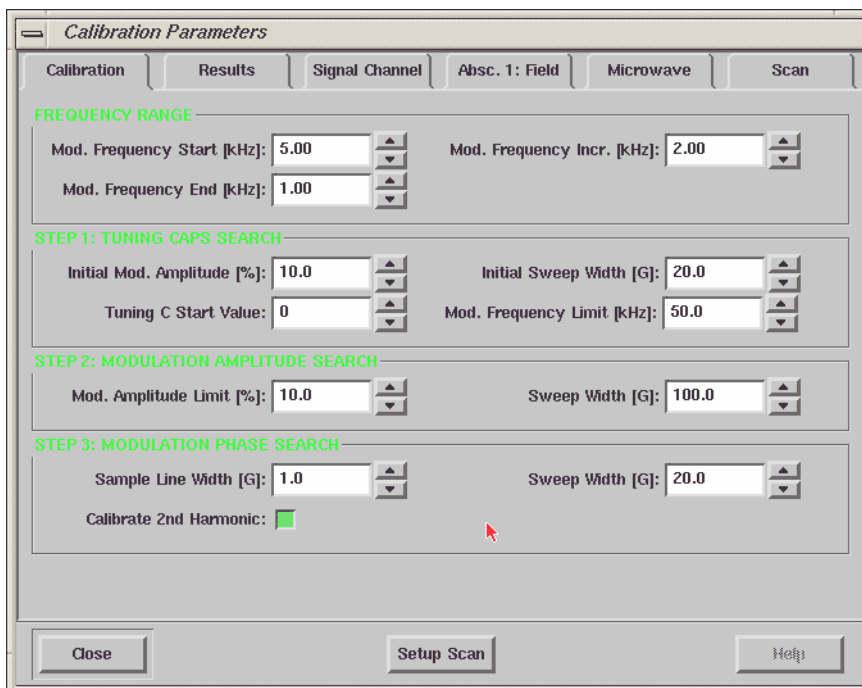

Figure 2-15 Changing the Frequency Range.
25. **Adding additional frequencies.** If you wish to add more frequencies to the calibration file, for example lower frequencies below 10 kHz, the remaining instructions guide you through the necessary steps. Click the **Calibration** tab. Change the **Mod. Frequency Incr.** (for example, to 2 kHz). Change the **Mod. Frequency Start** (for example to 5 kHz). Change the **Mod Frequency End** (for example to 1 kHz). (See Figure 2-15.) For modulation frequencies less than 10 kHz you need to reset the **Mod. Amplitude Limit** to 10%.